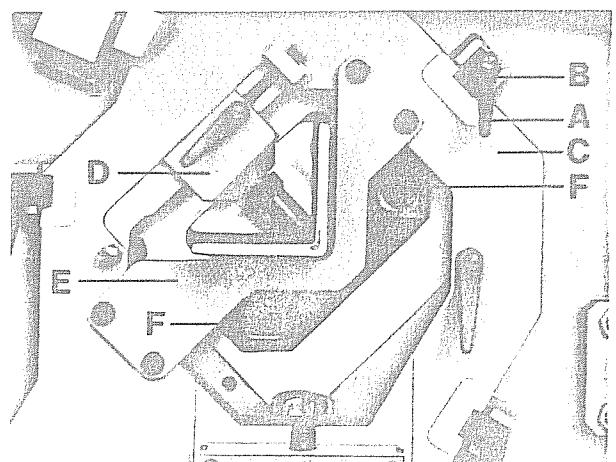

Fig. 47: Hold-down KBLH 500/700,
- b) KBLH 500 and 700: Loosen clamping lever "A", push supporting brackets "B" outwards, and tighten. Swivel hold-down plate "C" to the front (Cf.fig. 47).
When using the combined blade for angles, round and square steel sections, push the appertaining pressure piece "D" onto the hold-down plate, and screw the hold-down rail "E" by the pressure screws "F" for round and square sections to the hold-down plate (See fig. 47).